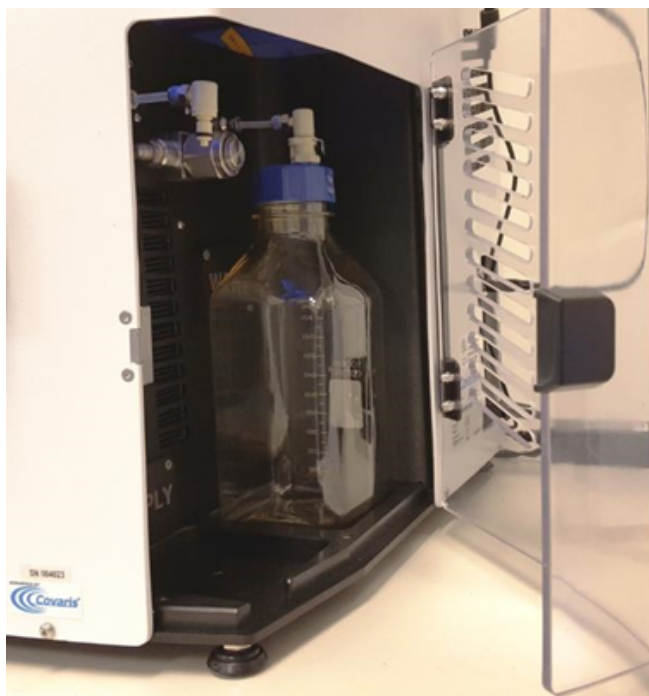

Figure 2.3 Placing Bottles into Water Works Bay
- Place the empty Water Works waste bottle in the waste compartment of the Water Works bay, with the label on the cap facing out as shown in **Figure 2.3**.